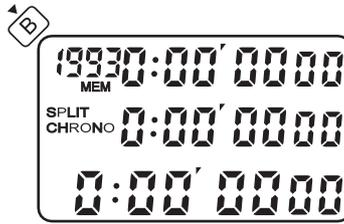
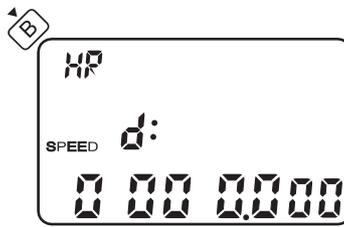

Fig. 7
Fig. 14
- Press B to reset and be ready for the next race, as shown in Fig. 7. The counter at the top left corner displays the memory left for further races. Further races can be recorded by pressing A and B buttons as above.
In the CHRONO MODE before the start of a race, such as in Fig.7, push and hold B for 2 seconds will go to the SPEED SET mode as is shown in Fig.14. The first digit in the lowest row is flashing to indicate setting of the thousandth digit of distance. Push A to set and B to select the next digits. The highest setting for distance is 9999.999.